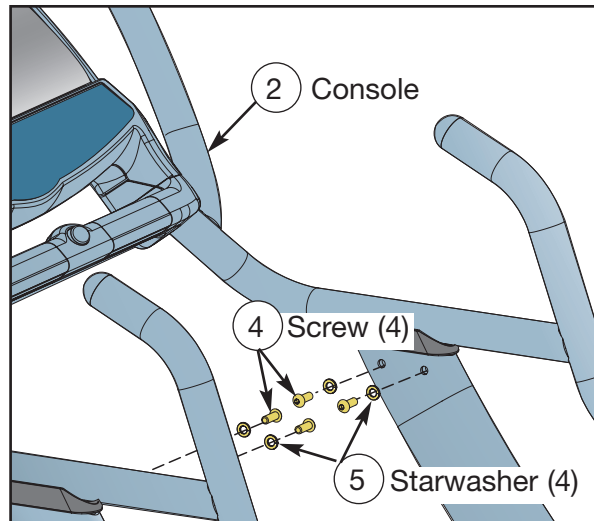

Figure 5
C. Using a 3/16" hex key, loosely attach the console with the four 5-16-18 x 1.00 screws and four starwashers. **NOTE:** Do not securely tighten the screws until step 6D. See Figure 5.